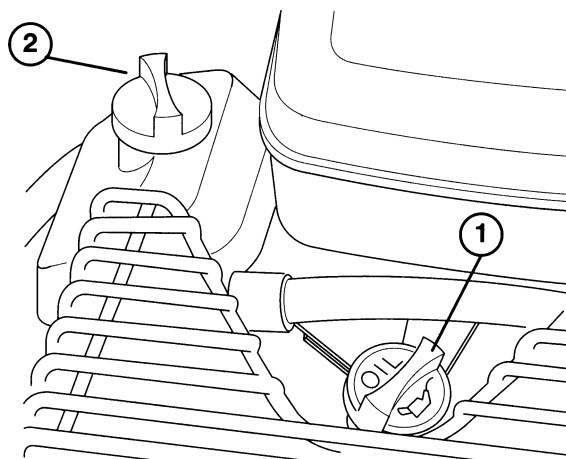

Figure 2
7. Secure the battery with the battery bolts, clam, washers and wing nuts (Fig 2).
2. Remove the dipstick and wipe it with a clean rag. Push the dipstick down into the dipstick tube and make sure it is seated fully. Pull the dipstick out and check the level of oil (Fig. 2). If the oil level is low, add enough oil to raise the level to the FULL mark on dipstick.
1. Remove the cap from the fuel tank (Fig. 2) and fill the 4.5 gallon tank to within 1 inch from the top with unleaded gasoline. Install the fuel tank cap tightly.